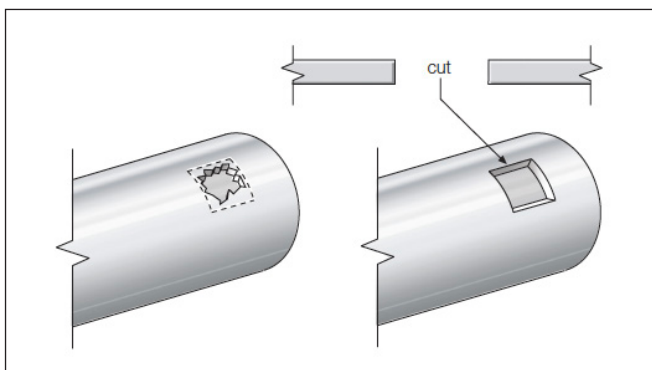

Figure 59 – Repair section step 1
1. Cut away damaged material back to firm substrate as shown in Figure 59.